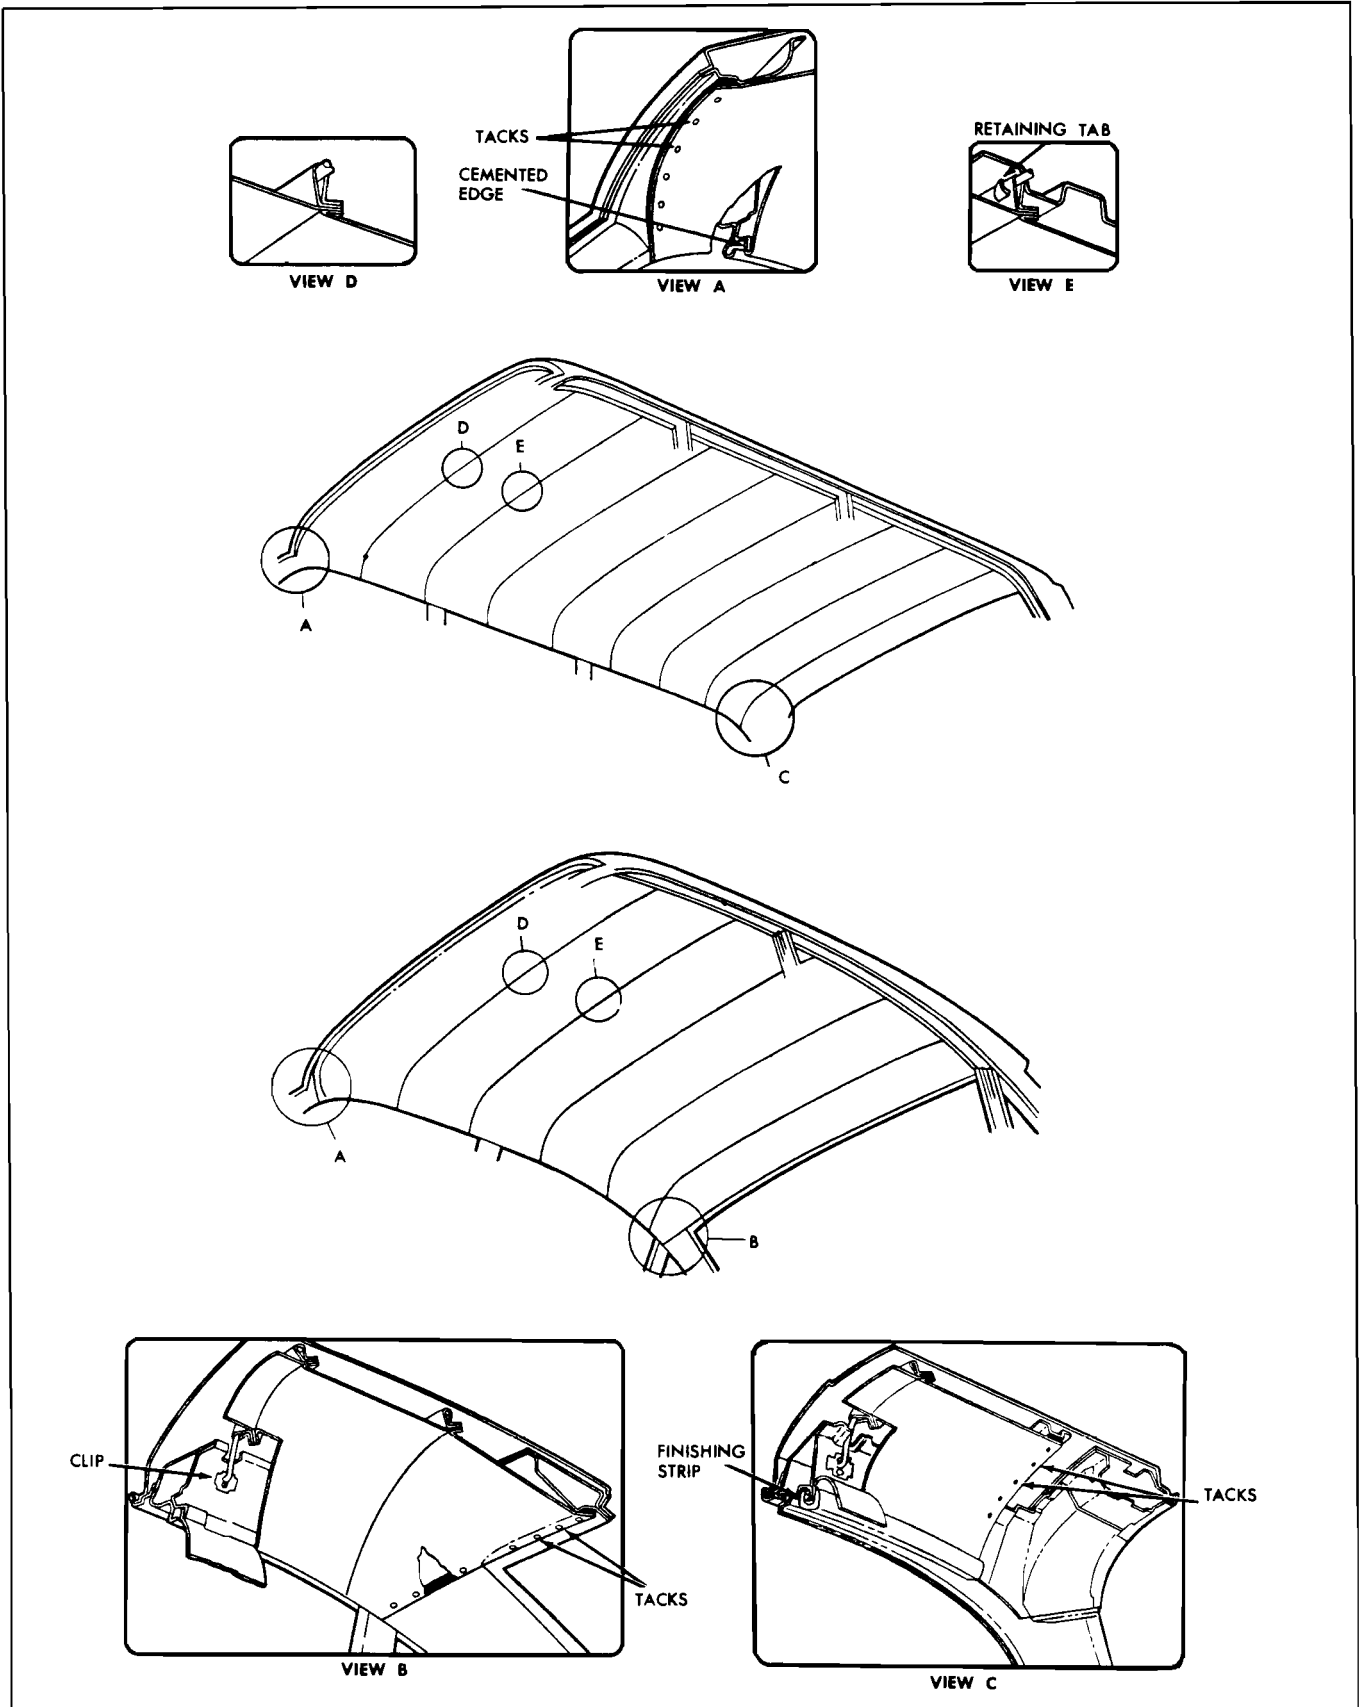

Fig. 10A-78 Headlining Installation
6. At roof bow, bend down metal tabs, shown in View "E", Fig. 10A-78, and remove listing support wire from roof bow.
4. Install headlining listing support wire over metal tabs on roof bow. Bend up metal tabs so that support wire is securely fastened to roof bow (View "E", Fig. 10A-78).